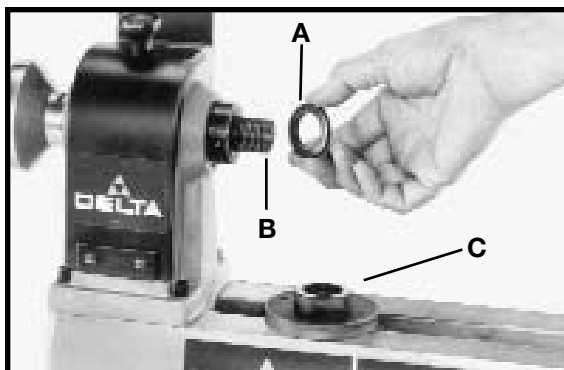

Fig. 14
2. Install spacer (A) Fig. 14, onto the headstock spindle (B). Faceplate (C) is shown in illustration.